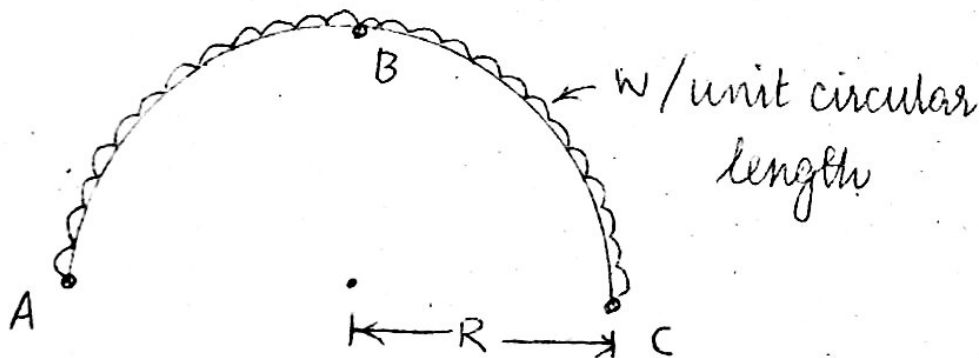

Fig. Q. 15 (a)
15. (a) Diagram fig. Q.15 (a) shows a curved beam, semi-circular in plan and supported on three equally spaced supports. The beam carries a uniformly distributed load of  $w/\text{unit}$  of the circular length. Analyse the beam and sketch the bending moment and twisting moment diagrams.